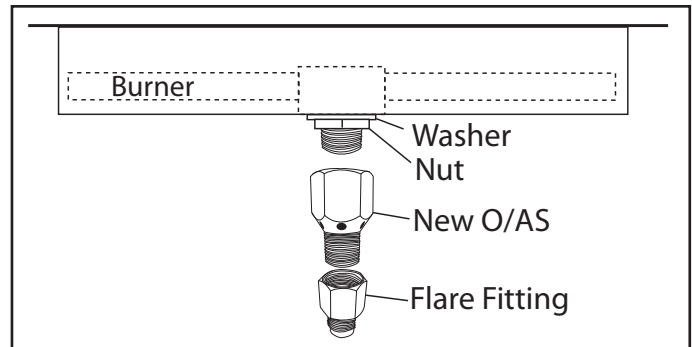

Fig. 2 Installing new OAS
11. Install the 1/2" NPT Female to Male flared to the new OAS-LP (See figure 2).